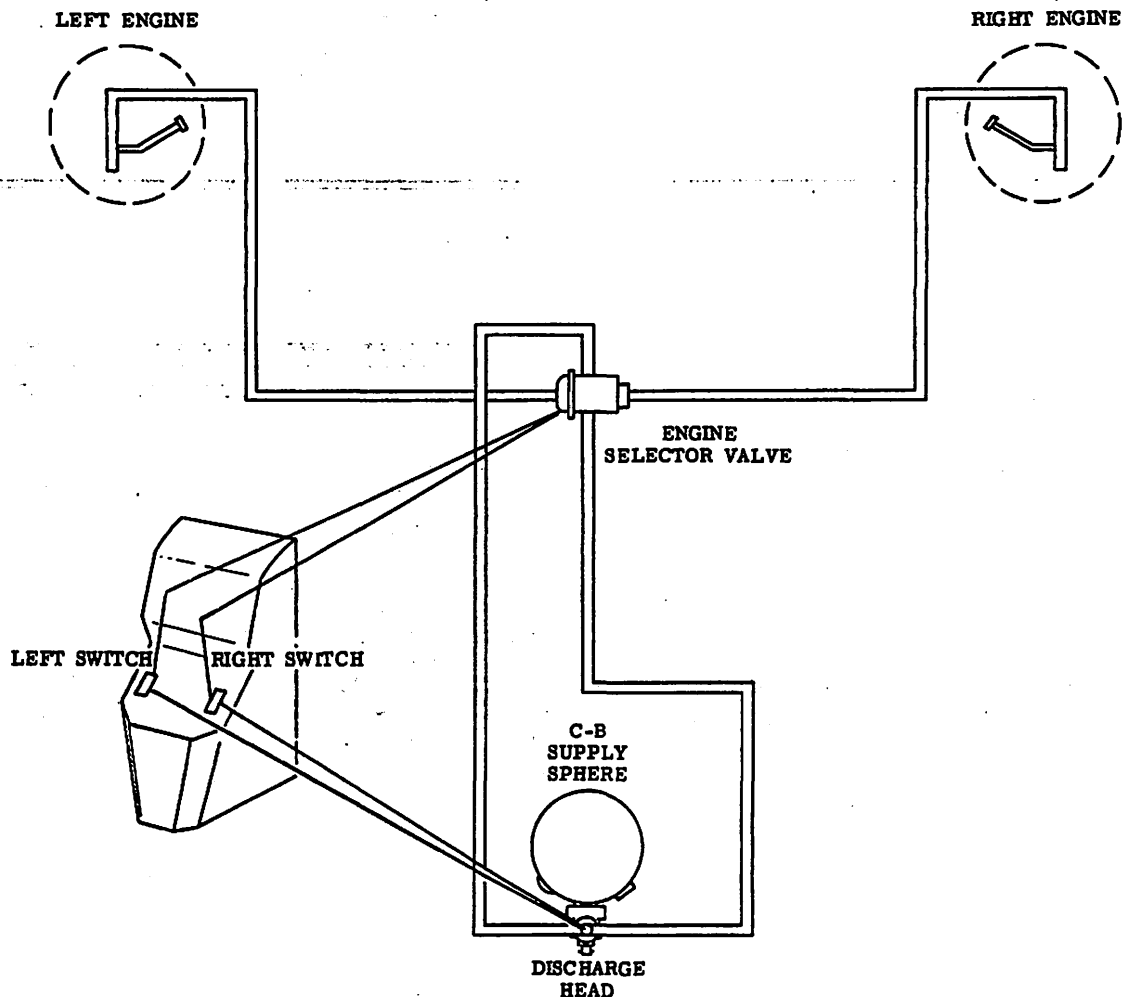

Figure 4-9. Engine Fire Extinguisher System, C-45H
4-41. DESCRIPTION. An electrically controlled engine fire extinguisher system discharges bromochloromethane (CB) into each engine accessory compartment, the carburetor alternate air valves and the oil cooler ducts behind the oil radiator (figure 4-9). The supply sphere with its discharge head on the bottom, is mounted on the floorboard beneath the co-